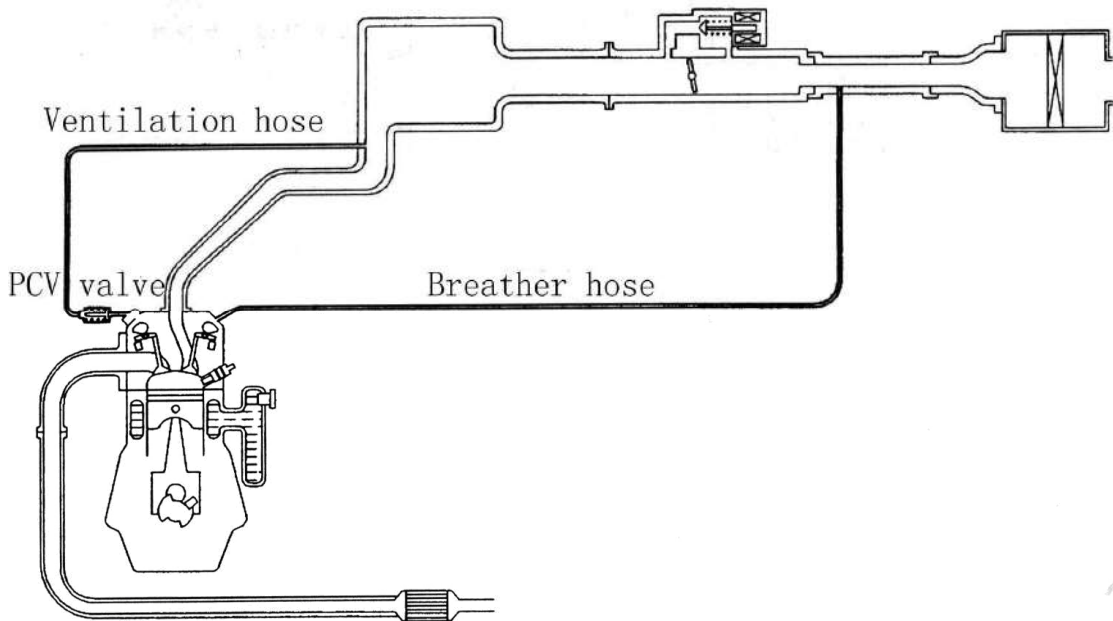
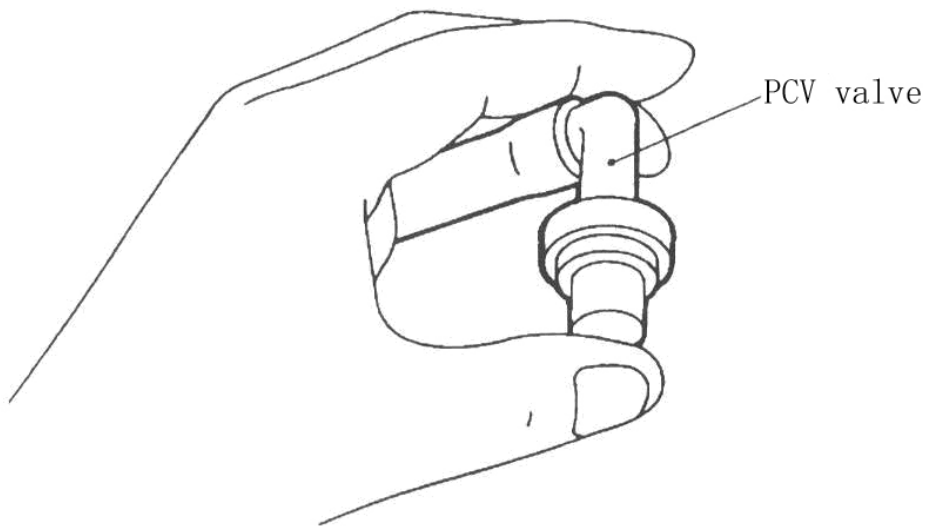

Fig. 10-5
Fig. 10-6
- 2) POSITIVE CRANKCASE VENTILATION SYSTEM DIAGRAM(see Fig. 10-5, Fig. 10-6)